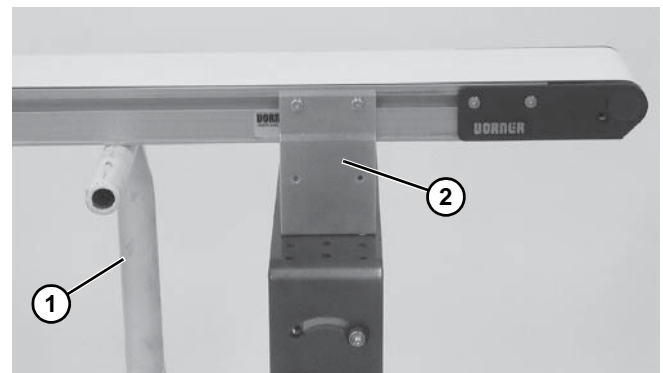

Figure 30
8. Place temporary support stands (**Figure 30, item 1**) at both ends of the conveyor.
9. Remove mounting brackets (**Figure 30, item 2**) from one side of conveyor. (Reverse steps 3 & 4 of "Mounting Brackets" on page 7.)